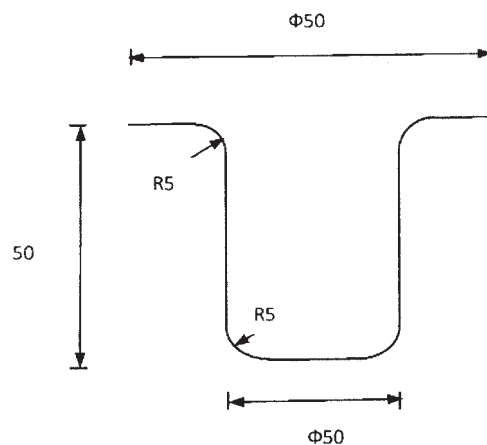

Figure 2
**Q3) Design a Drawing die for the component as shown in figure 2.**
- Q4) a)** Calculate blank size required to form a cup (figure 2) using graphical method. [8]